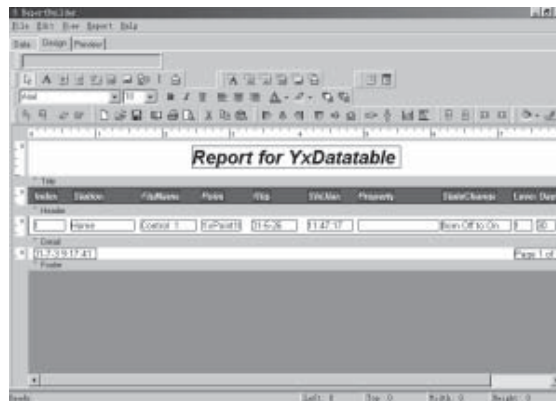

Fig. 7-7 Design the Report
(4) Design the Report: Select and click the button °Design±and it will enter the diagram of designing report as in Fig. 7-7. And then the user can design various reports according to the requirement.